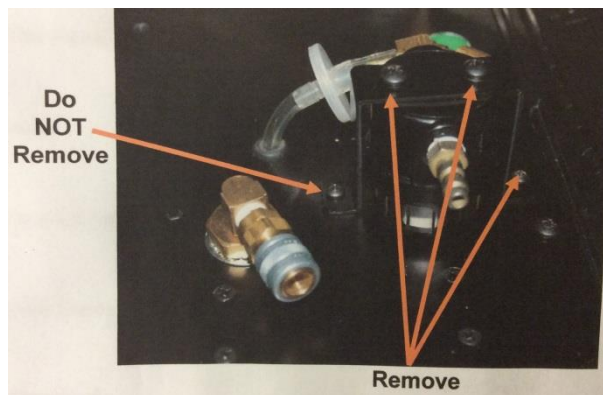

Figure 2: Access to water trap filter
1. Remove only the 3 screws as shown above (Figure 2), do not remove the fourth screw on the panel holding the bracket